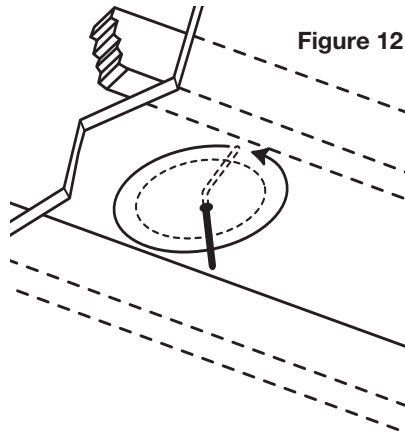

Figure 12
3. Cut a foot-long piece of coat hanger. Bend the wire (creating a right angle) leaving 4-1/8" at one end for the CM5HD, 4-3/4" for the CM6HD and 5-3/8" for the CM8HD (this allows for the extra width of the mounting dogs). Poke the "L-shaped" wire into the pilot hole and turn it in a complete circle and move it into the ceiling cavity to make sure you have approximately 3-3/4" of depth. If the wires movement is obstructed by anything, fill the hole(s) with spackle and try another location. **(See Figure 12)**